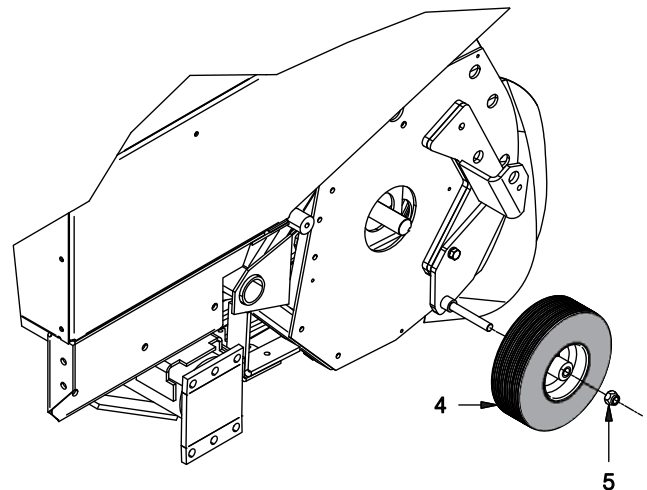

Figure 2 - Mounting Tire Assembly
B. Mount (1) WHL4103504 Tire Assembly on the bracket as shown in Figure 2. Place (1) 223587 ESNA nut as shown in Figure 2. Torque all nuts and bolts as per torque chart on page 1.